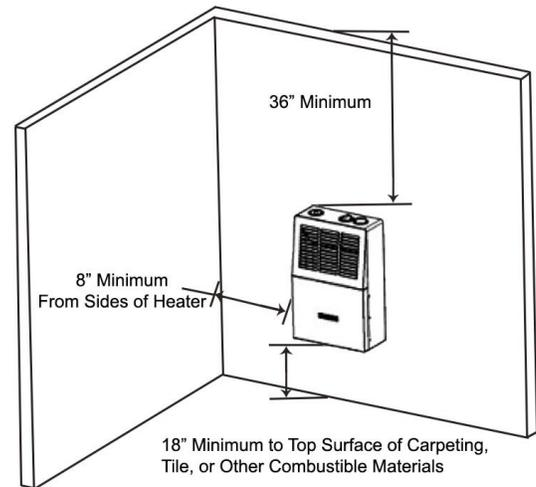

Figure 5 - Mounting clearances from combustibles as viewed from front of heater (inches)
**⚠ WARNING:** Maintain the minimum clearances shown in Figure 5. If you can, provide greater clearances from floor, ceiling, and joining wall.